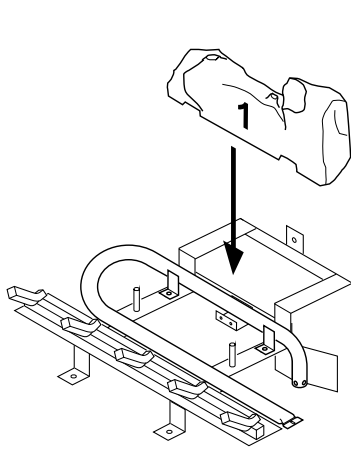

Figure 55 - Installing Log No. 1
It is very important to install these logs exactly as instructed in Figures 55 through 58. Do not modify logs. Only use logs supplied with freestanding burner system. Do not use if any log(s) are broken (see *Replacement Parts*, page 33).
2. Place log #1 (back log) on top of grate. Make sure the notches in the bottom of the log fit over the grate (see Figure 55).